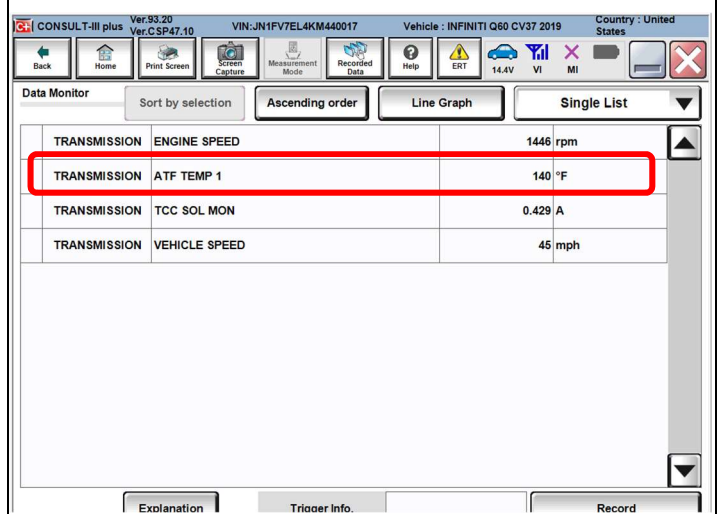

Figure 8
- Monitor "ATF temp 1" on the C-III plus screen and verify the fluid temp is at 140°F (Figure 8)